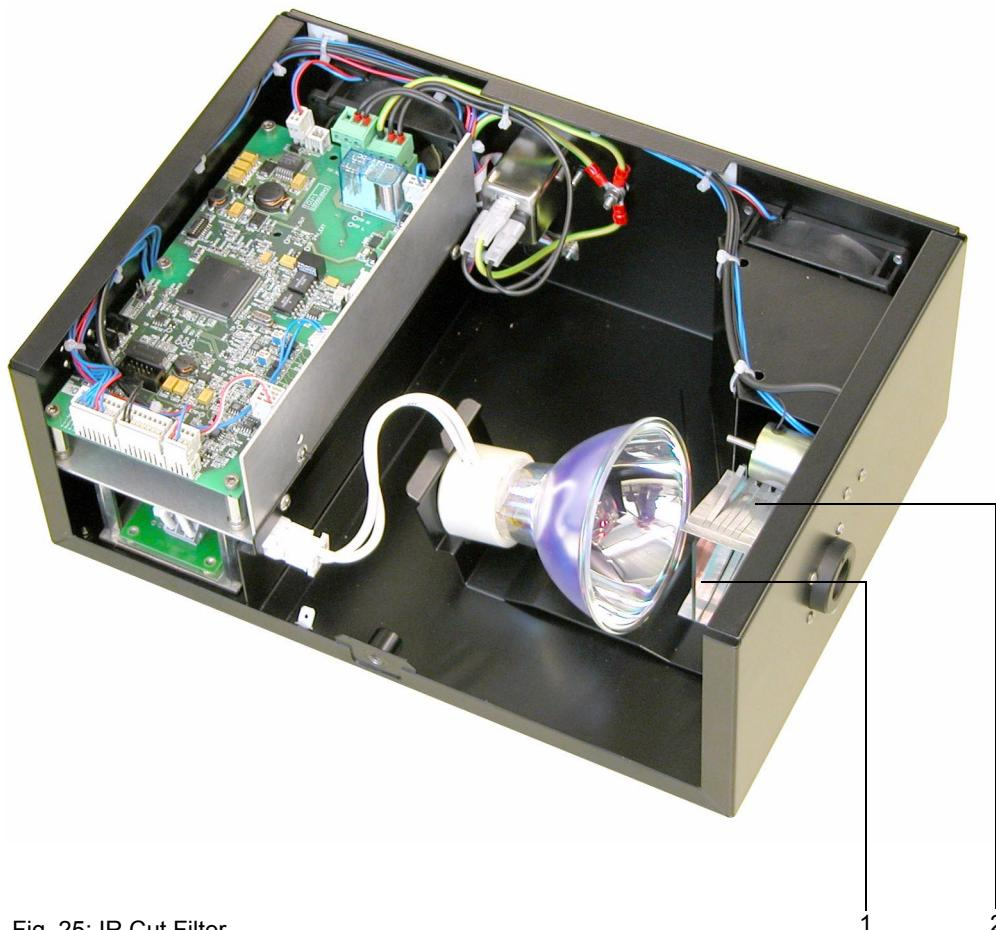

Fig. 25: IR Cut Filter
4. **Fig. 25:** Remove the old IR cut filter (**1**) from the filter holder (**2**).